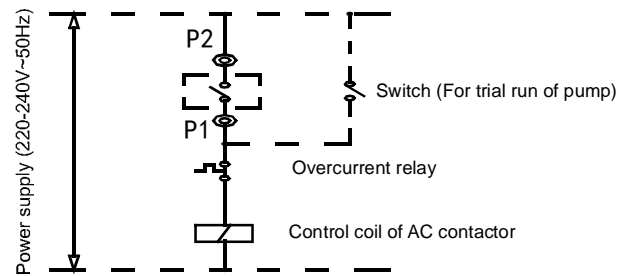

Fig.5-3
- Step 11. Connection of control wires of pump: the control wires of AC contactor of the pump must pass the connection terminals P1 and P2 of the main unit, as shown in Fig. 5-3.